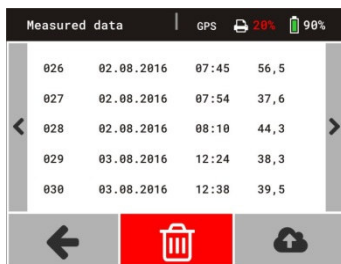

Figure 28
- Confirm button  by pressing the  key (Figure 28).